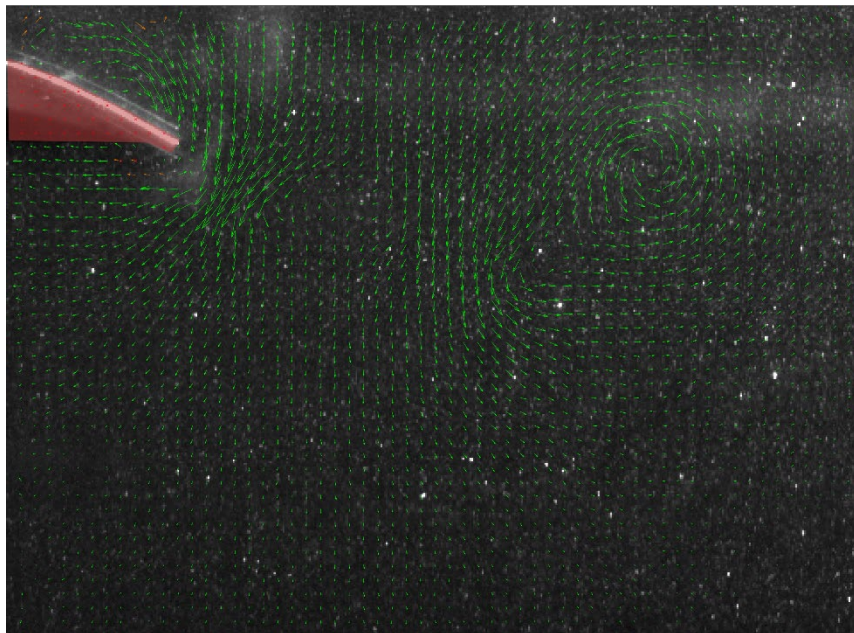

Fig. 5 – Velocity vector field with vector validation applied
- Apply the default setting by clicking on Apply to current frame button. The vectors that are flagged/updated will be highlighted with a different color (see Fig. 5). If there are still many spurious vectors left that are not marked, you can decrease the threshold and redo the process.